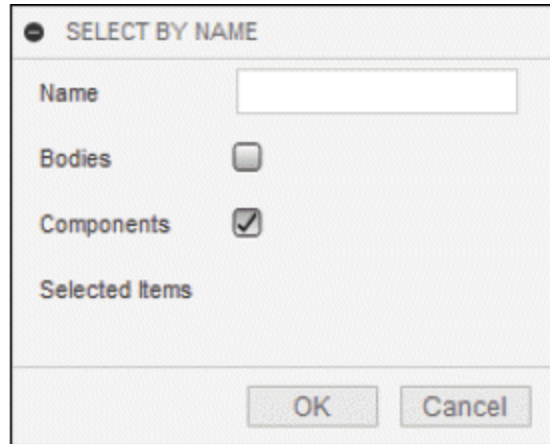

Figure-16. SELECT BY NAME dialog Box
- Click on the **Select By Name** tool from the **Selection Tools** cascading menu of **SELECT** drop-down in the **Toolbar**. The **SELECT BY NAME** dialog box will be displayed; refer to Figure-16.